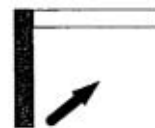

Fig. 3.2
- 2- Lift up the front using a see-sawing motion, bracing yourself on the top side of the instrument and separating the lower part from the base (see Fig. 3.2);